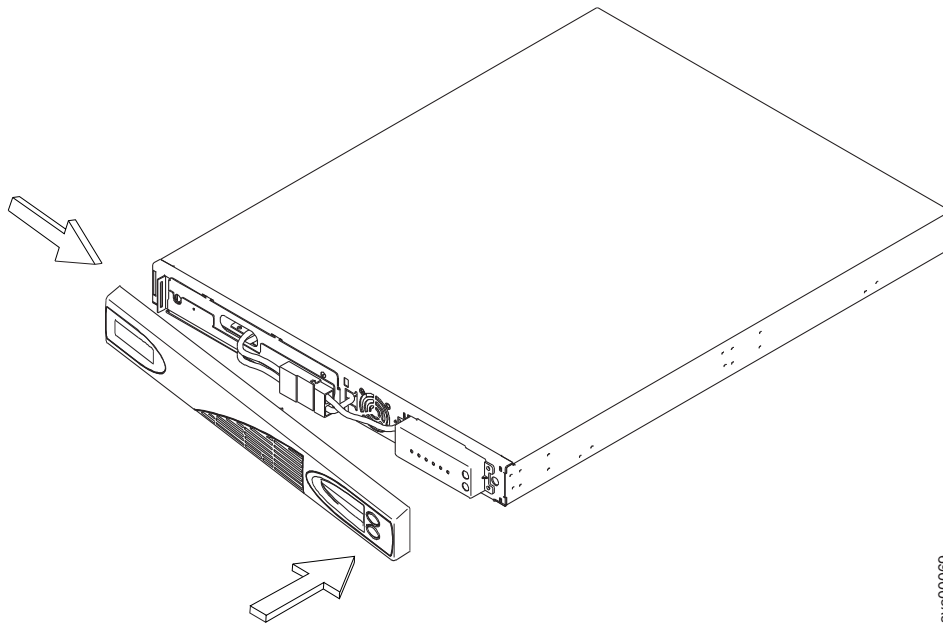

Figure 363. Replacing the 2145 UPS-1U front panel
3. Connect the internal battery connector, as shown in Figure 363 on page 425. Each end of the keyed connector has two wires: one red (+) and one black (-). Join the black wires and the red wires together.
4. Push the front panel to the right to catch on the left end of the panel. Push the front panel forward until the panel snaps into the right and middle sections of the 2145 UPS-1U, as shown in Figure 363.